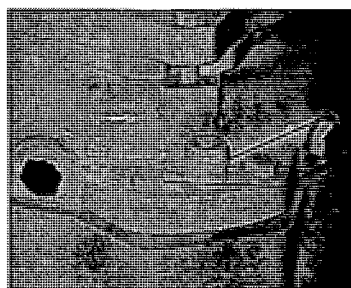

Fig. 14
2. Locate the six fixing screws securing the pump housing to the motor and the three adjusting screws, see fig. 14.